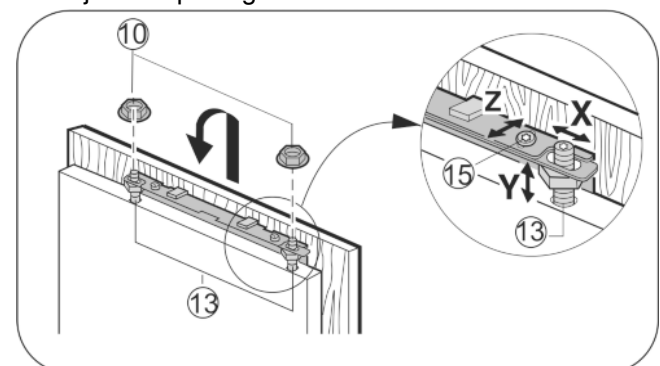

Fig. 23
- ▶ Attach the unit door on the adjusting bolts *Fig. 23 (13)* and loosely screw locknuts *Fig. 23 (10)* onto the adjusting bolts.
- ▶ To align the unit door in the **Y** direction (height) and in lateral inclination: Adjust the adjusting bolts *Fig. 23 (13)* with a screwdriver.
- ▶ Tighten the locknuts *Fig. 23 (10)*.